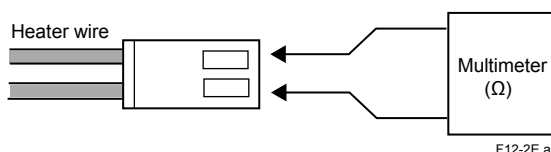

Figure 12.2
- 5) Remove the probe to gain access to the two connectors (four connectors for the optional automatic calibration unit), as indicated in Figure 12.2. Check these connectors are properly connected.
- (1) Turn off the power to the analyzer.
- (2) Remove the probe from the analyzer. Also remove all the connectors between the converter and probe. Measure the resistance of the heater wire (yellow wire) from the probe as indicated in Figure 12.2. The heater assembly is normal if the resistance is lower than about 90 Ω. If the resistance is higher than that value, the heater assembly may be defective. In this case, replace the heater assembly (refer to Subsection 11.1.3, "Replacement of the Heater Assembly").